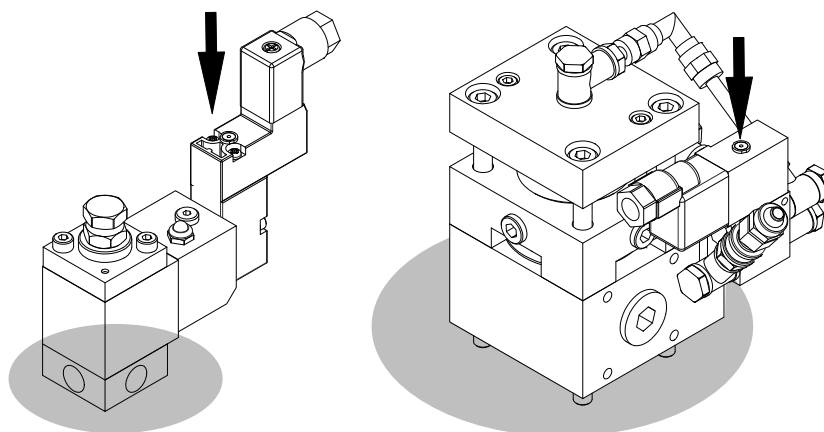

Fig. 5-1
- On an applicator with solenoid valves, activate the solenoid valves electrically or manually (Refer to Figure 5-1). Do not use sharp objects! Repeat until no more material flows out.